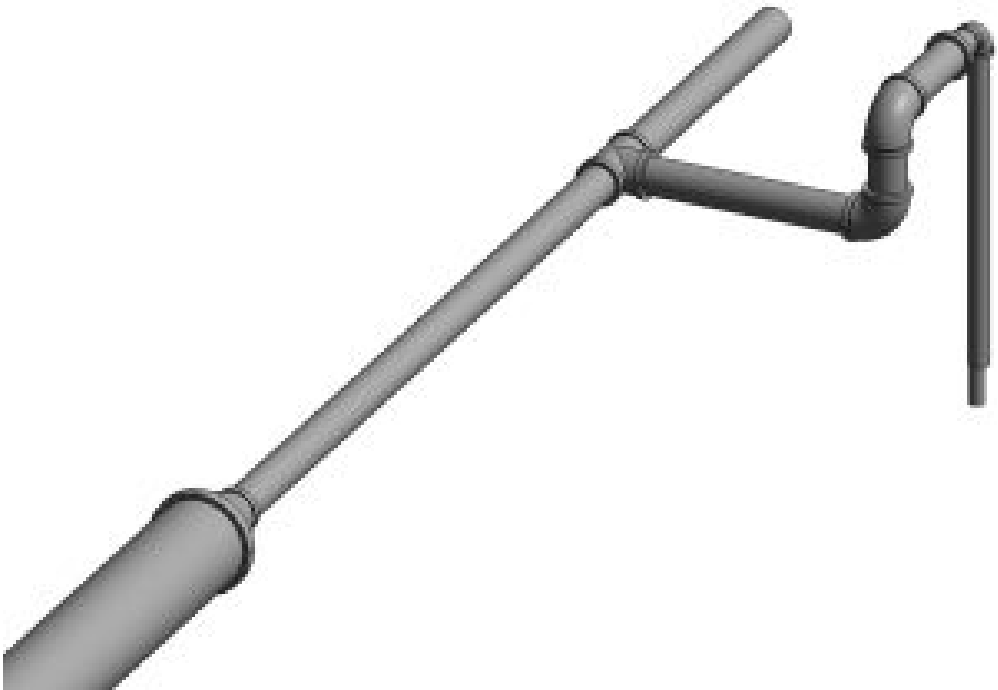

Figure 15.8 Pipe main and branch lines connected to the sprinkler head shown in 2D plan view (left) and in 3D view (right)
10. Draw a 1 1/2" diameter pipe out towards the sprinkler head as shown in Figure 15.8
12. Draw a pipe from the 1/12" pipe to the center of the sprinkler and Revit will connect it automatically. See Figure 15.8 for reference.